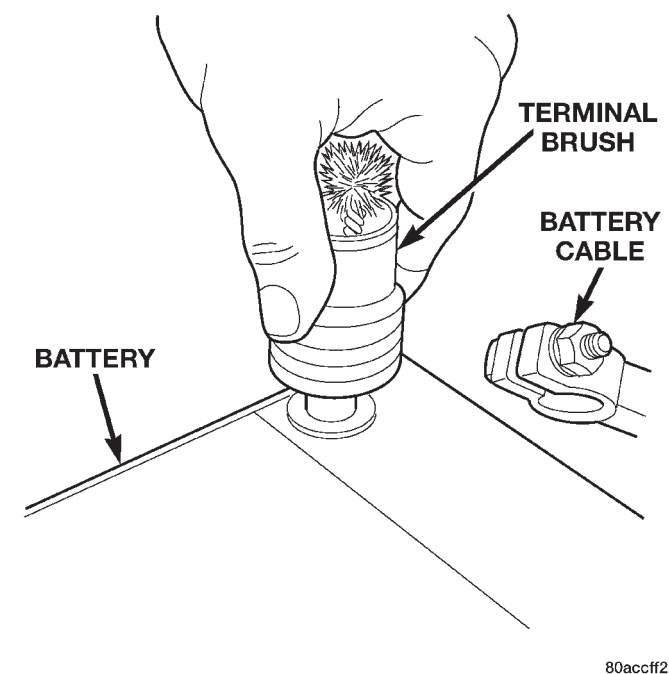

Fig. 20 Clean Battery Terminal Post - Typical
(9) Clean any corrosion from the battery terminal posts with a wire brush or a post and terminal cleaner, and a sodium bicarbonate (baking soda) and warm water cleaning solution (Fig. 20).